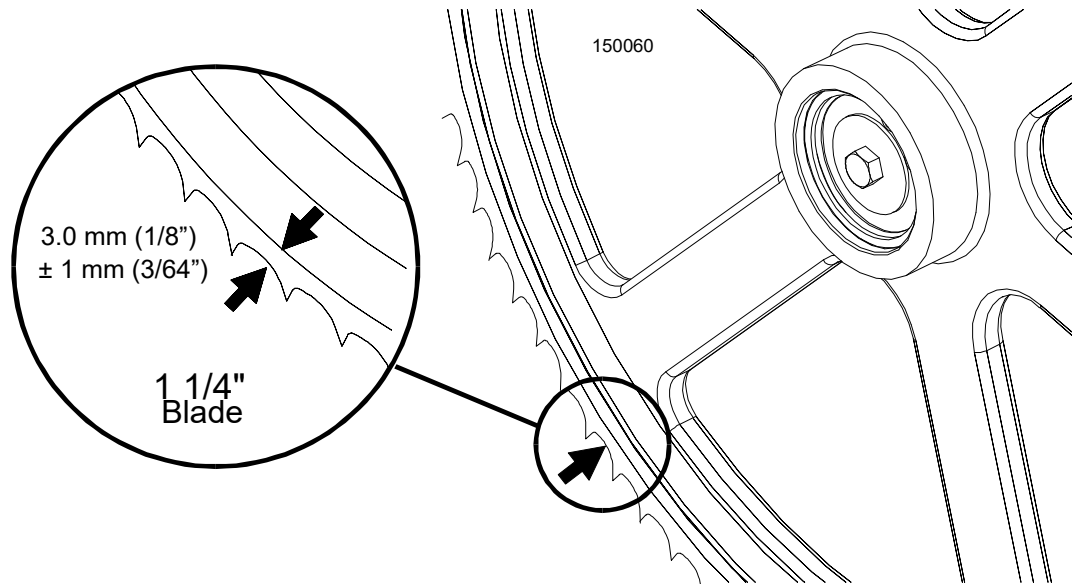

**FIG. 5-5**
**See Figure 5-5.** Use the vertical adjustment screws to adjust the idle-side blade wheel. To tilt the wheel up, loosen the bottom adjustment screw one quarter turn. Loosen the jam nut on the top adjustment screw and tighten the screw. Tighten the top and bottom jam nuts.